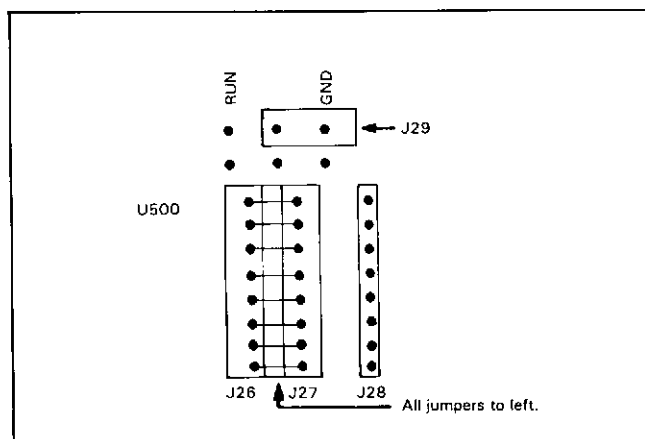

Figure 8-F-1. Reference Jumpers.
- b. Place jumper A20J29 to the ground position and set all the jumpers located at the right of A20U500 between A20J26 and J27, as shown in Figure 8-F-1.